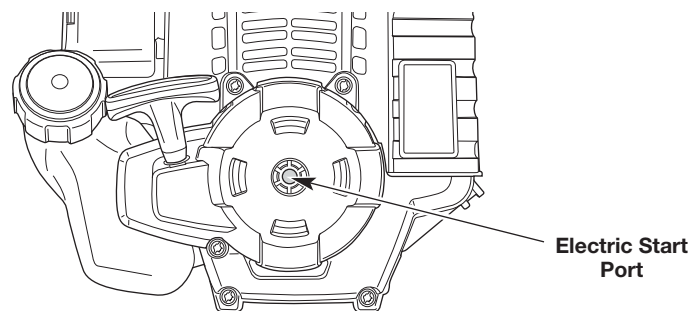

Fig. 10
6. Insert the electric start accessory into the electric start port (Fig. 10). Refer to the *Operation* section of the electric start accessory operator's manual.